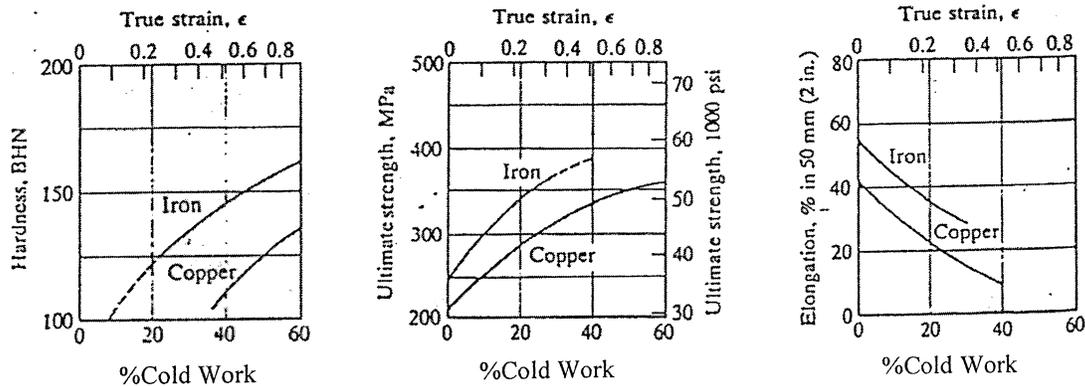

Fig 1. Cold Work vs Mechanical Properties (Iron and Copper)
1. (a) A copper wire must have a diameter 0.7 mm and an ultimate strength of  $>325$  MPa (46,000 psi) together with a minimum ductility of 10% elongation in a tensile test. It is to be processed (drawing and annealing) from 10 mm diameter rod. Using the data in Fig 1, determine the diameter of the die to be used for the penultimate cold draw.